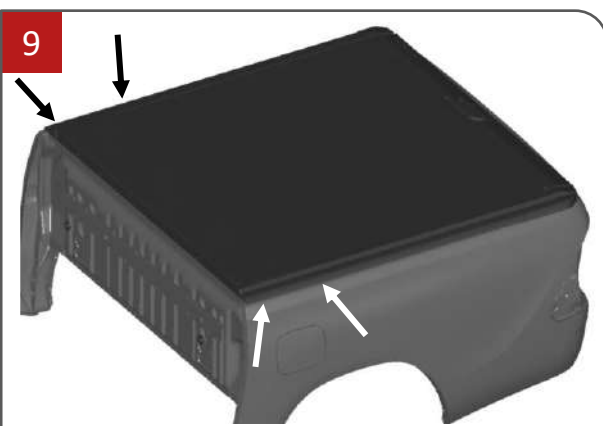

Figure 9
- Lift the preassembled Rollatop in the areas shown in **Figure 9**.